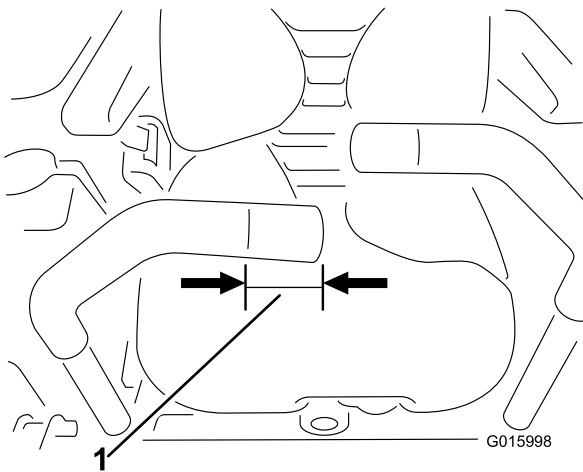
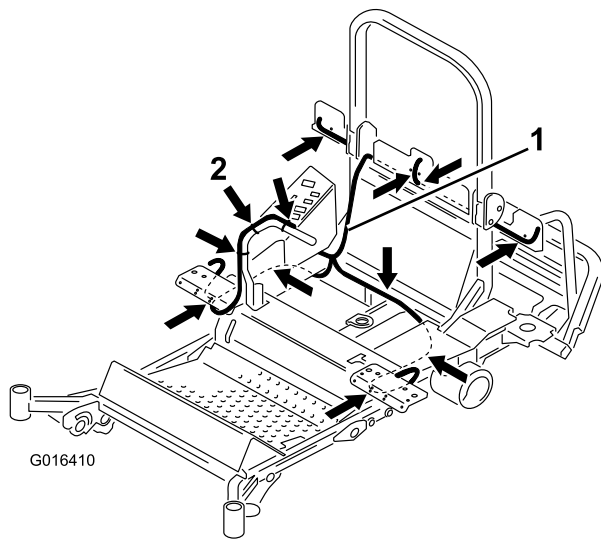

Figure 12
Figure 16
1. To install the adaptor switch mount, cut 40 mm off the right-hand motion control lever (Figure 12).
2. Route the wire harness on the machine: Upward between the side of the tank, the bulkhead, and along the tail board (Figure 16).
2. Route the wire harness branch along and under the rear cross member and through the chassis at the rear wheel (Figure 16).
1. Route the last branch of the wire harness with connectors to the combination switch assembly and the right-hand lamp and indicator (Figure 12) through the right-hand chassis at the rear wheel toward the headlight (Figure 16).
4. Secure the wire harness in position as shown in Figure 16.
2. Secure the wire harness to the motion lever with a cable tie, and ensure that there is enough play in the cable to allow the lever to move forward and backward (Figure 16).
3. Secure the harness in place with cable ties as shown by the arrows in Figure 16.